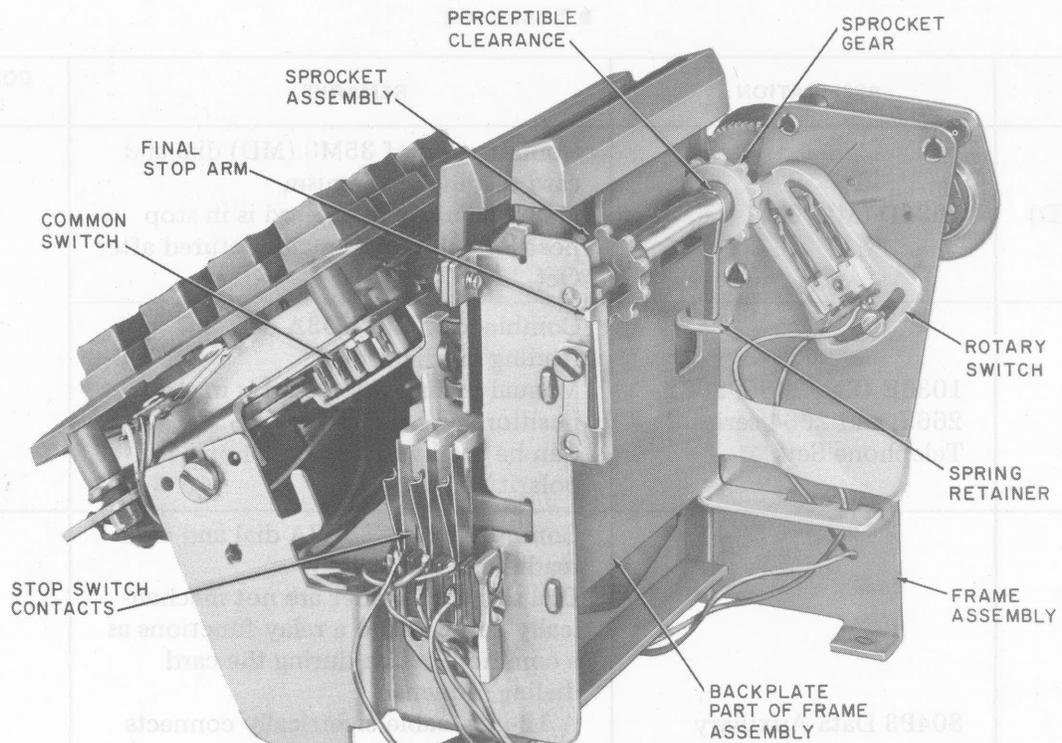

Fig. 4—36E, J, K, or L Dials, Right Side View
- Frame assembly—for positioning in apparatus assemblies (Fig. 4)
- Sprocket assembly—provides motor action (Fig. 4)
- Stop switch—allows manual dialing while card is at stop position (Fig. 4)
- (1) Inspect card throat for foreign material.
- (2) Place a properly coded test card in throat and depress fully.
- (3) Depress START bar, dial tone should be broken and two tones should be heard at each coded line as card advances.
- (4) Stop switch contacts (Fig. 4) must be closed while card is advancing and must be open when card is in stop position or at end of run.
- (5) Card drive spring should have consistent tension as the card is lifted. If card rises too slowly, check drive spring tension as follows:
- (a) Unwind drive spring by pulling out on final stop arm (Fig. 4) until there is no tension on spring retainer. On current production dialers, spring retainers screws must be loosened and retainer moved out of the way.